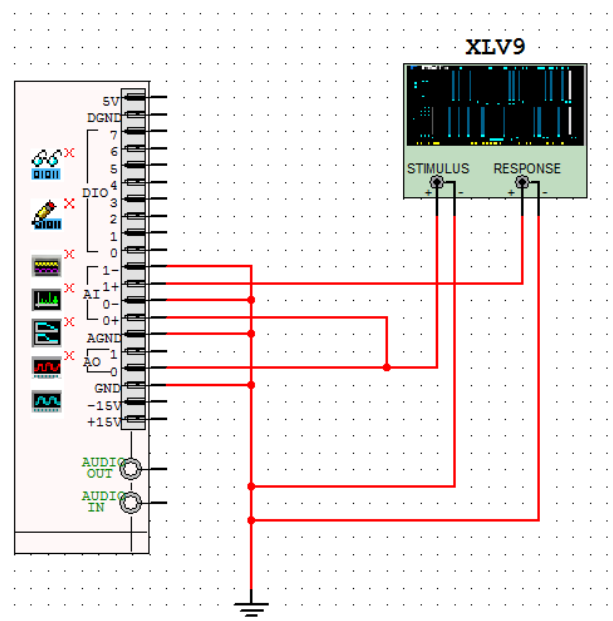

Figure 7: NI myDAQ design in Multisim
1. Create a new NI myDAQ design in Multisim and place the NI ELVISmx Bode Analyzer on the sheet and wire it as shown in Figure 7.
2. You can actually use the same Multisim schematic that you created in Figure 7.